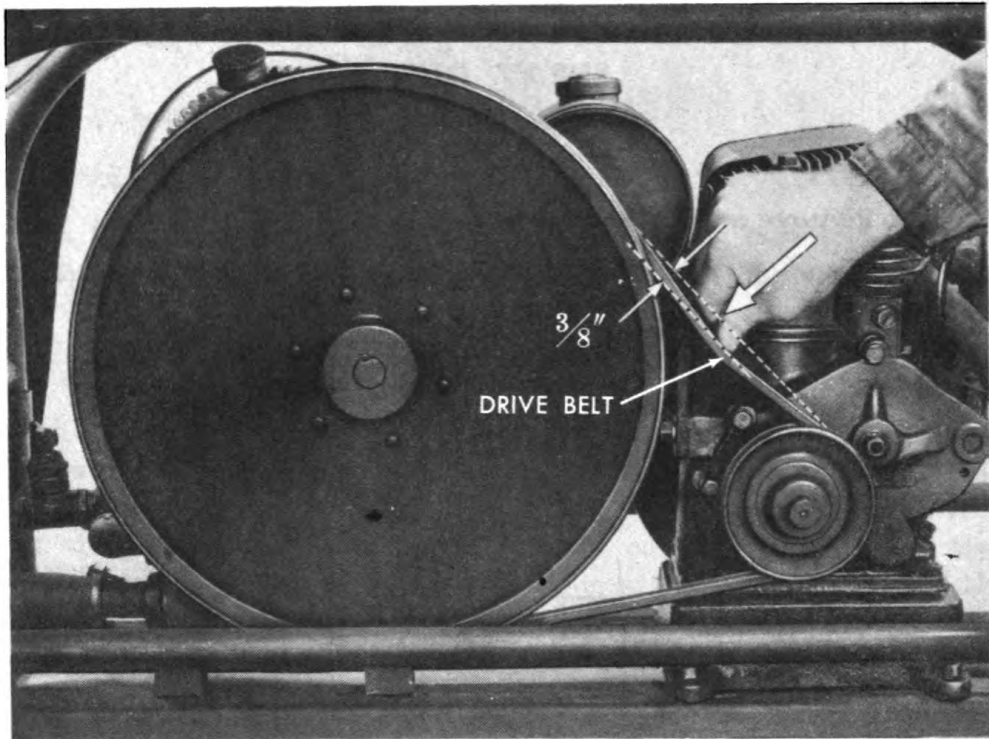

Figure 43—Drive Belt Adjustment
- (1) Loosen four engine mounting bolts.
- (2) Pull or pry engine away from pump until center of drive belt can be depressed a distance of $\frac{3}{8}$ inch, under moderate thumb pressure (figure 43).
- (3) Tighten four engine mounting bolts securely.